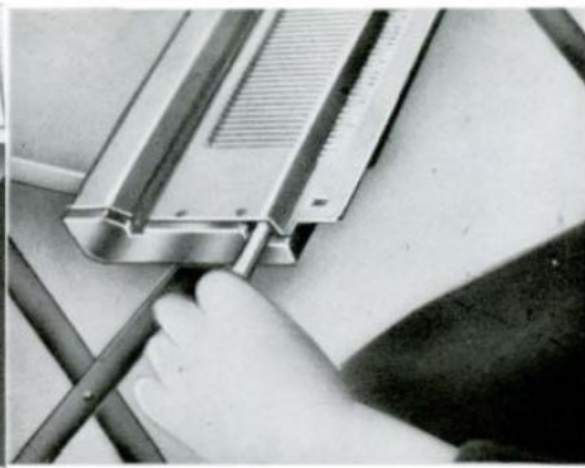

Fig. 105
- b. Withdraw it by hand from the knitter until the needle you wish to change is freed. (See Fig. 105)